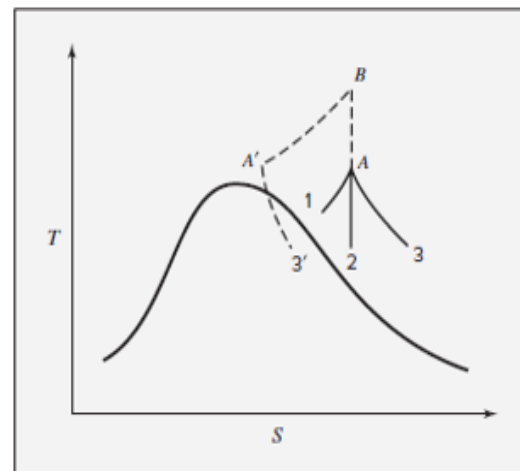

Figure 9.5: Cooling processes on a  $TS$  diagram.
The **three methods** are illustrated in Fig. 9.5. The **constant-pressure process (1)** approaches the **two-phase region (and liquefaction)** most closely for a given drop in temperature.
*The throttling process (3) does not result in liquefaction unless the initial state is at a low enough temperature and high enough pressure* for the **constant-enthalpy process** to cut into the two-phase region. This is **indeed the situation for an initial state at A'**, but not at A, where the temperature is the same but the pressure is lower than at A.